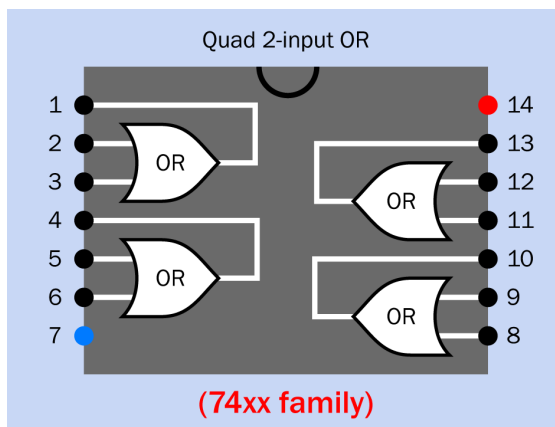

Figure 10-16. In a quad two-input 74xx OR chip, this layout is used, which is different from that used in all the other quad two-input logic gates.
- The 14-pin quad two-input OR chip has different pinouts from all the other 74xx logic chips. It is shown in Figure 10-16.